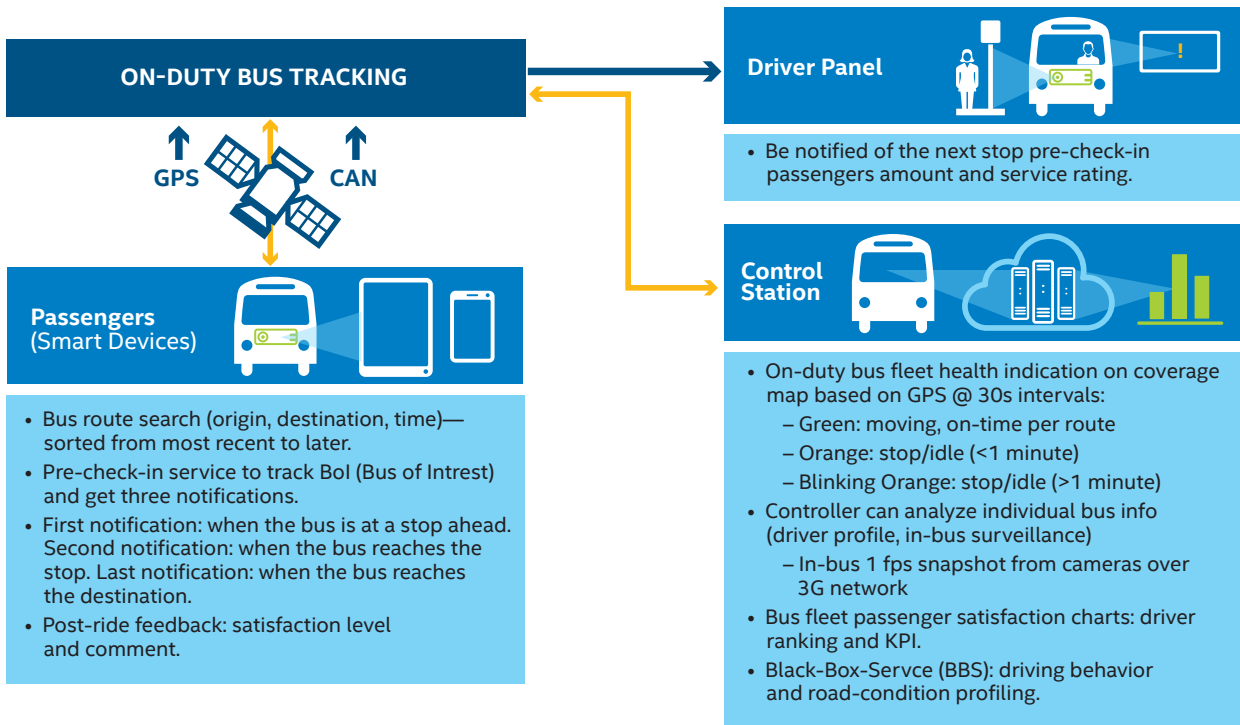

Figure 4. Key Elements for Mobile App Support.
- Figure 4.** Key Elements for Mobile App Support5
Passengers can get regular updates on their journey by installing an app on their mobile devices that receives alerts from the Intel PoC. When passengers are waiting at a bus station, they can check-in to the app, which will let the bus driver know they are waiting to be picked up. Passengers get three alerts: 1) when the bus is at the prior stop, 2) when the bus reaches the passenger's stop, and 3) when it reaches the passenger's destination. Figure 4 shows an implementation using the PoC to send the bus GPS coordinates to the control station, which generates alerts that are sent to passenger mobile devices via the PoC.